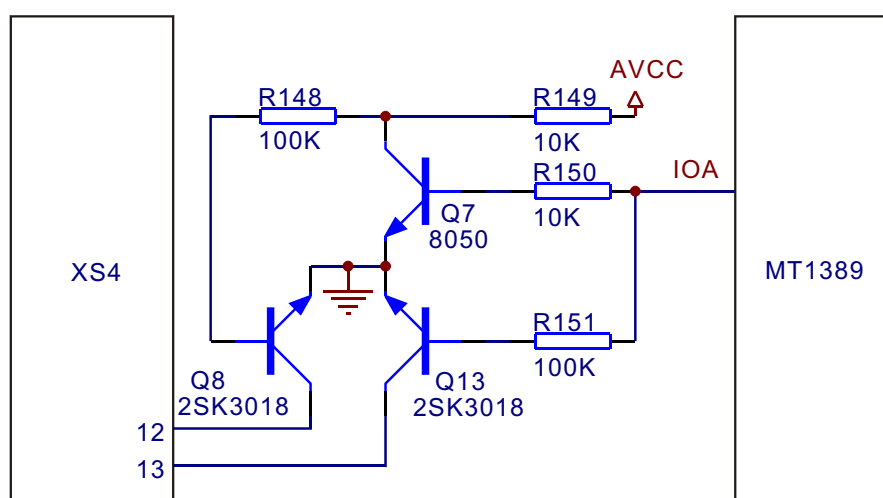

Figure 3.2.2.1 CD/DVD switch circuit
1. CD/DVD switch circuit is shown in the figure 3.2.2.1: